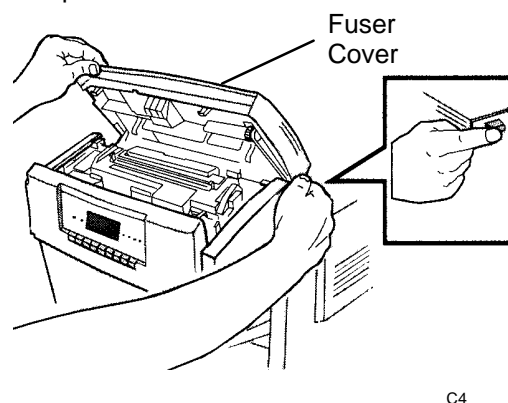

Figure 2. Opening the Fuser Cover
2. (Figure 2): Release the Latch and open the Fuser Cover.